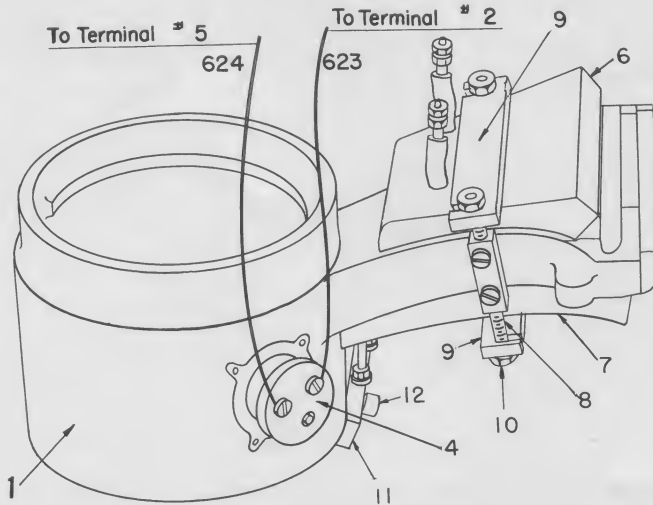

FIGURE 13—View Showing Method of Mounting Upper Throat Heater to Crucible
**"Klixon" Over-Temperature Switch**—A "Klixon" over-temperature switch 4, Fig. 13, which is defective and in the closed position would also cause the circuit breaker to throw out the switch each time the switch is turned to the "On" position. To check on the "Klixon" switch action, disconnect the two wires 623 and 624 from the "Klixon" at terminals 2 and 5 on terminal strip 50, Fig. 3, in the control box 35 and observe action with the over-temperature switch out of the circuit.
If either the snap-action switch or the relay remain closed the pot will continue to heat up until the pot has reached a temperature of about 600 degrees F. At approximately this temperature the "Klixon" switch 4, Fig. 13, will snap closed, energizing the shunt trip coil wired in series with it and tripping open the circuit breaker. If it happens that the "Klixon" does not close, the current will continue to flow. If the "Klixon" has closed but the circuit breaker is faulty, and does not open, current will also continue to flow.
Both Throat Heaters 6, 7, Fig. 13, have been designed to permit their replacement without removing the crucible from the pot jacket. Turn off power when replacing either upper or lower throat heaters.
**To Remove Lower Throat Heater**—Open the vise and pull mold slide forward to expose the T-shaped cover under the throat of the pot. Remove the T-shaped cover. Take wire leads off heater terminals. Unscrew the two clamp nuts 10, Fig. 13, which hold clamp 9, across the heater. Loosen the threaded bolt 12, which holds the bottom of the heater firm. Slide heater out through the T-shaped hole in pot jacket.
**To Remove Upper Throat Heater**—Remove the five screws holding the upper heater terminal inspection plate on, and lift off inspection plate. Disconnect the two wires to heater terminals. Unscrew the two clamp nuts 10, Fig. 13, which fasten the heater clamp 9 across the upper throat heater. Lift the heater out through the hole in the top of the pot cover provided for inspecting the heater terminals.
To Remove the “Klixon” switch 4, Fig. 13, the crucible must be removed from the pot jacket. Remove pot pump plunger and pot pump stop bracket. Then turn off pot power switch and remove pot cover and expansion bulb and bellows. Allow pot to cool. Loosen all hard asbestos around crucible. Remove set screw in pot jacket throat, which is used to hold the crucible firm in the pot jacket. Disconnect the wires leading to all heater terminals. The crucible can then be lifted out of pot jacket. Remove two screws holding “Klixon” and wires connected to it.
**To Remove and Replace**—Turn power switch to "Off" position. Remove upper heater inspection plate and loosen two clamp nuts 10, Fig. 13, holding upper heater 6 in place. Remove four screws 52, Fig. 3, holding bellows 53 in control box 35. Remove the jacket cover mouthpiece bulb guard 29. Push upper throat heater 6, Fig. 9, back and lift out expansion bulb 24.